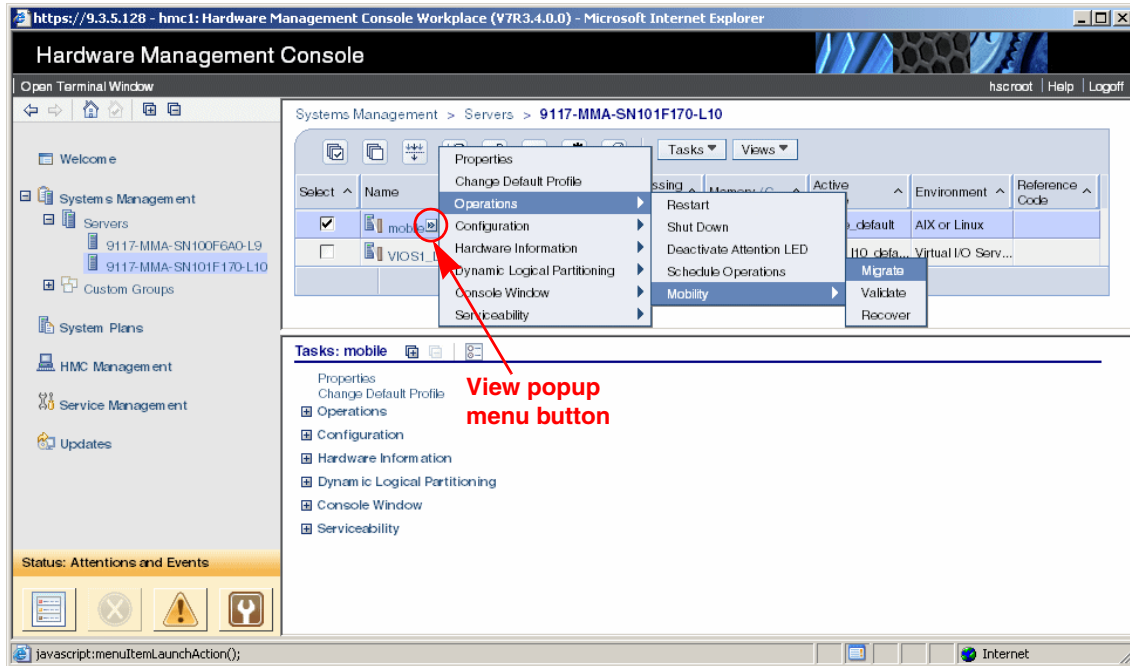

Figure 14-8 Partition mobility migrate menu on the HMC
3. Click **View popup menu** and select **Operations** → **Mobility** → **Migrate**, as shown in Figure 14-8, to start the Partition Migration wizard.